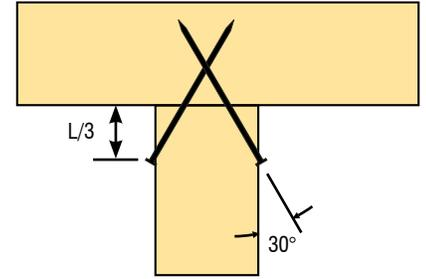
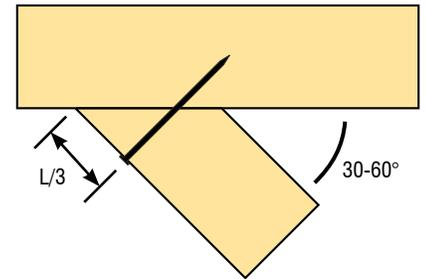

FIGURE B8-8 End jack to hip Girder Truss
FIGURE B8-9 Corner jack to corner Girder Truss
- ✓ Table B8-3 provides the factored lateral resistance of Toe-nailed Connections consisting of two-, three-, and four-nails for various types of nails and species of wood. The capacities listed are for Toe-nailed Connections attaching the Top and Bottom Chords of a 2x_ end jack Truss to a single or multiple 2x_ hip Girder Truss (Figure B8-8) or for the Toe-nailed Connections attaching the Top and Bottom Chords of a 2x_ corner jack Truss to a corner Girder Truss that intersect at angles from 30° to 60° (Figure B8-9).
Note: The nails for these Connections are assumed to be installed at $L/3$ (i.e., length of nail divided by 3) from the end of the jack Truss (Figures B8-8 and 9). Also, the Connection between the corner jack and corner Girder Truss assumes that the nails are driven normal to the face of the jack into the Girder Truss as depicted in (Figure B8-9).